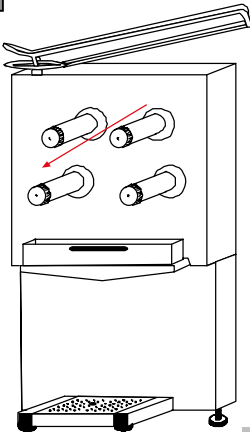

FIG. 0
- ☒ Once located machine, uncoil the two back screw such a form that the front axes have a slight inclination down. (FIG. 0)